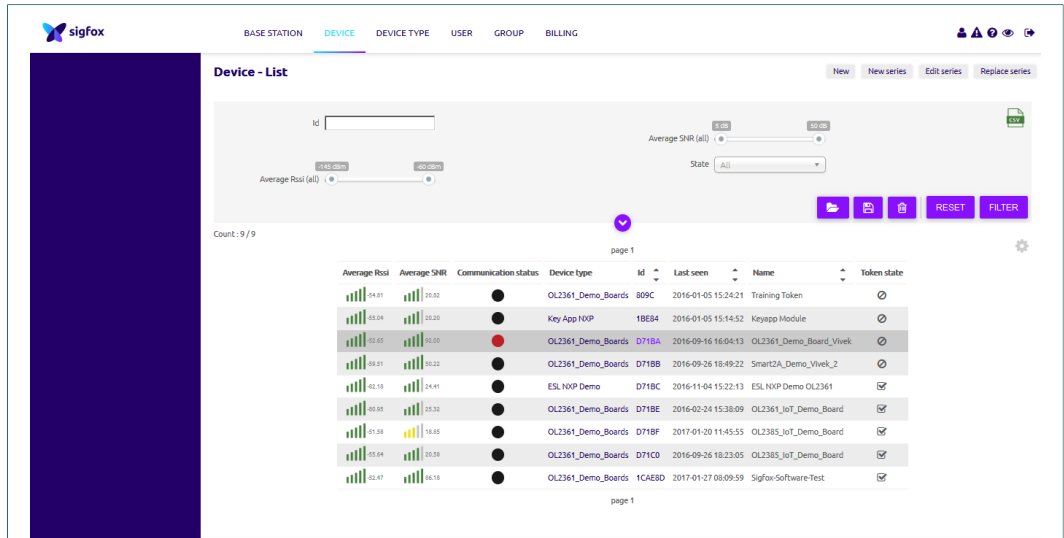

Figure 24. List of all registered devices on backend
2. Click on the **DEVICE** tab to see all of your registered devices, as shown in Figure 24.